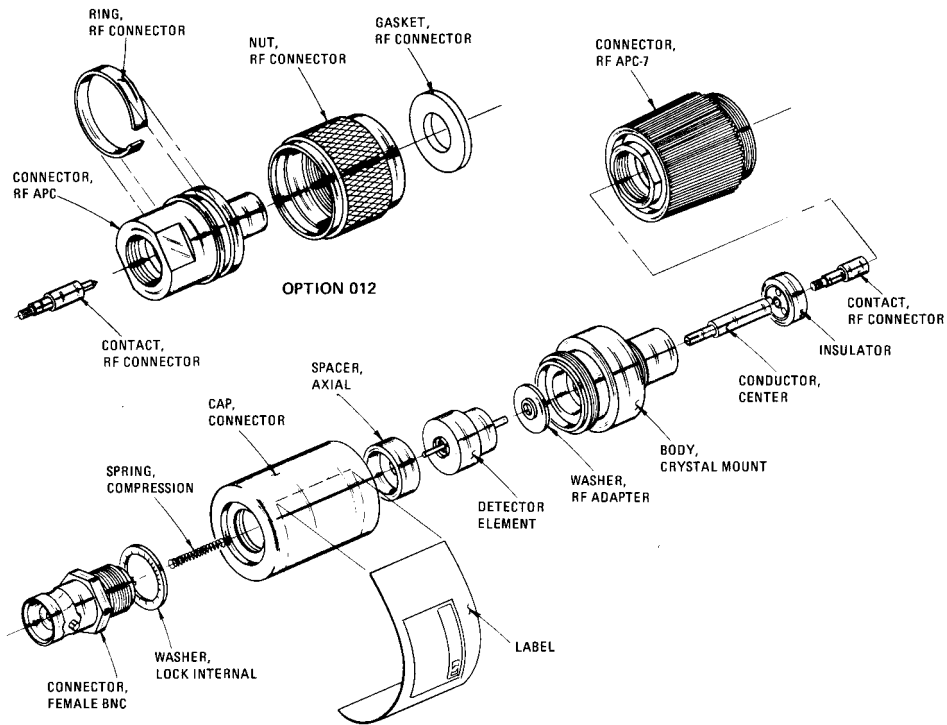
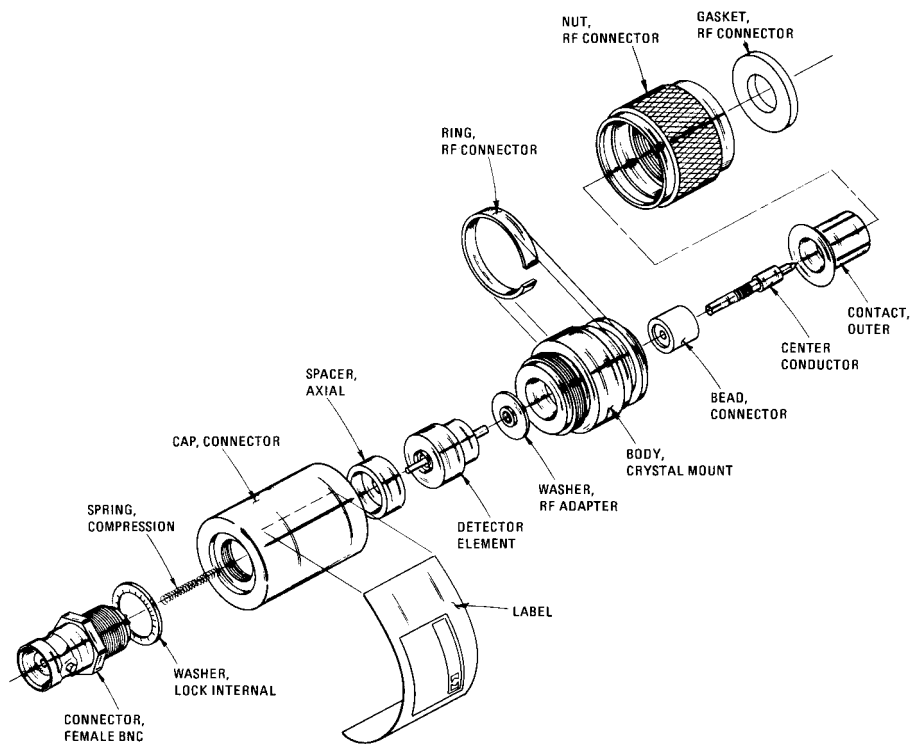

**Figure 2** Cutting Center Conductor Lead to Accommodate Contact Spring
**Figure 3** Load Resistor, Cutaway View
Parts referred to in the following procedures are identified in Figure 2 and Figure 3.
1. Remove the female BNC connector. Refer to Figure 3 for parts identification.